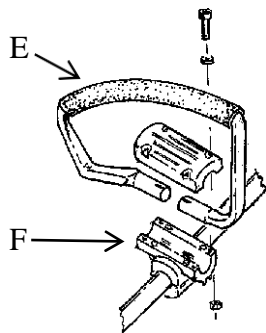

Fig. 5
**Vibration-damping grip:** (Fig. 5). Position the vibration-damping grip E in the cross F by keeping the longer part facing left (this serves as a protective barrier during operation that prevents involuntary contact of your body with the cutting accessory). Before definitively tightening the fixing screws, adjust it in a position that permits the ergonomic use of the machine. Then definitively screw down the fixing screws.